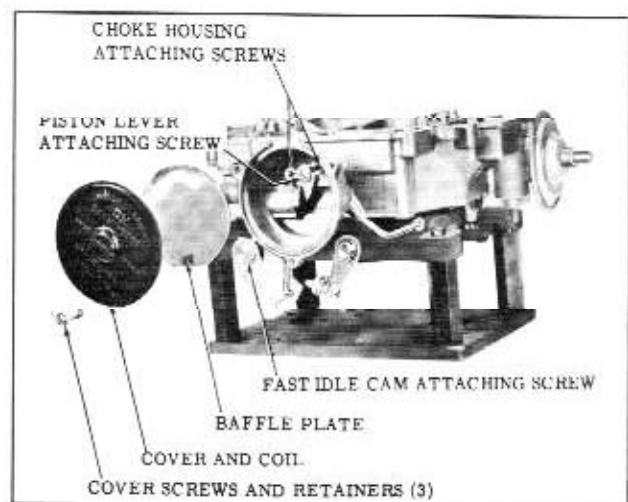

Fig. 8-104 Choke Assembly and Fast Idle Cam
13. Install the choke housing gasket, intermediate choke lever and shaft with linkage, in the choke housing. (Fig. 8-104)